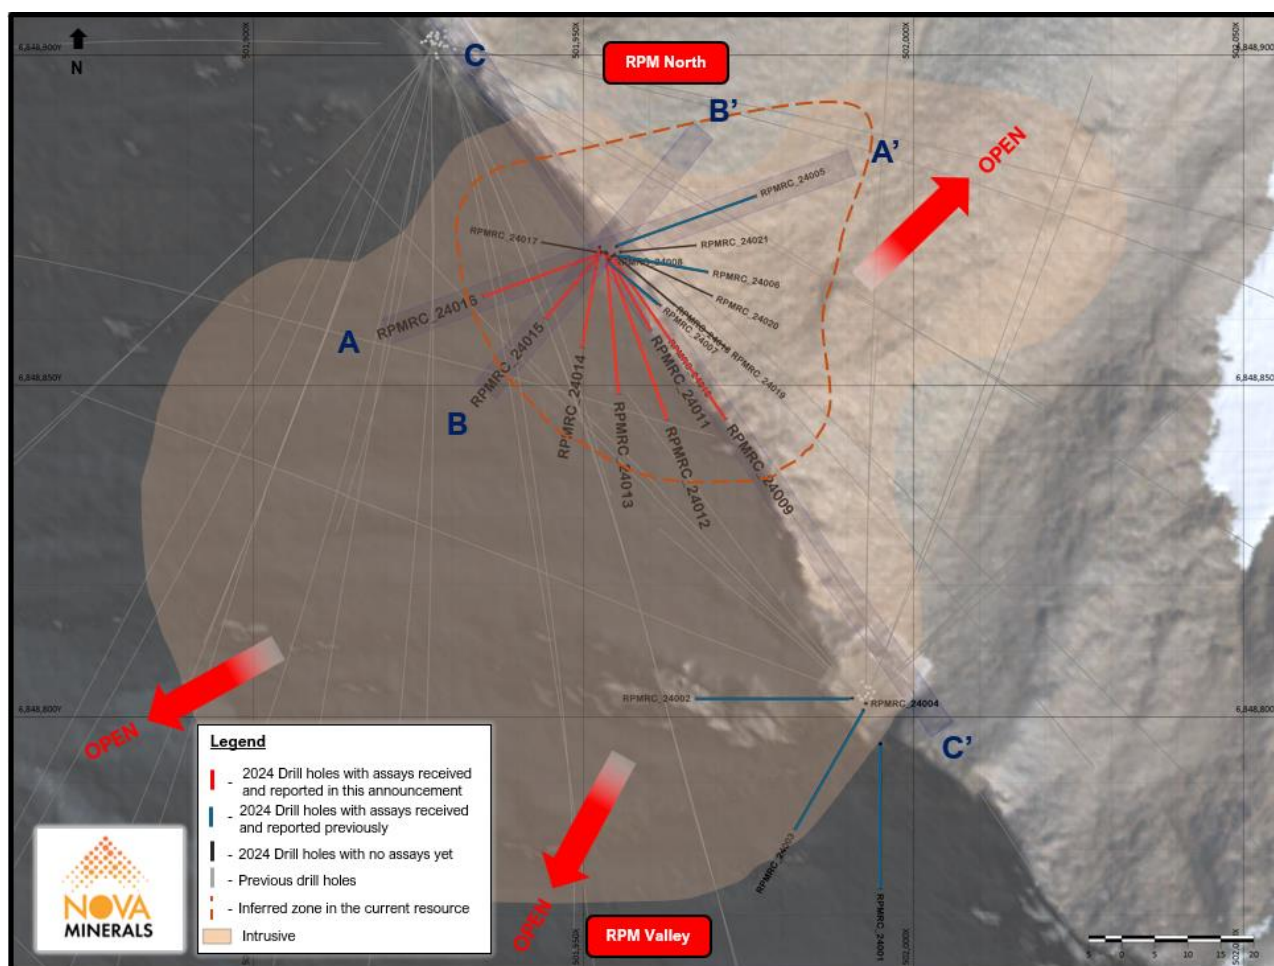

Figure 1. RPM North plan view with all drill holes to date
- High-grade gold intersections targeting near surface mineralization above the current high-grade Measured and Indicated core continue at RPM North with all holes ending in mineralization. Significant results include (Table 1 and Figures 1 to 4):
2. The secondary objective of the shallow 2024 drill program was to extend drilling to the South and Southwest of the current RPM North resource to begin to test a potential link with the RPM Valley zone situated approximately 150m to the Southwest. Highly prospective mineralized intrusive rocks have been observed in this area in recent geological mapping and confirmed with anomalous surface sample results. The results returned from previously announced holes RPMRC-24001 to RPMRC -24004 indicate the RPM North deposit remains wide open to the South-Southwest and is potentially connected to the RPM Valley zone (Figure 1). This warrants further follow-up diamond drilling to test the considerable resource upside potential.